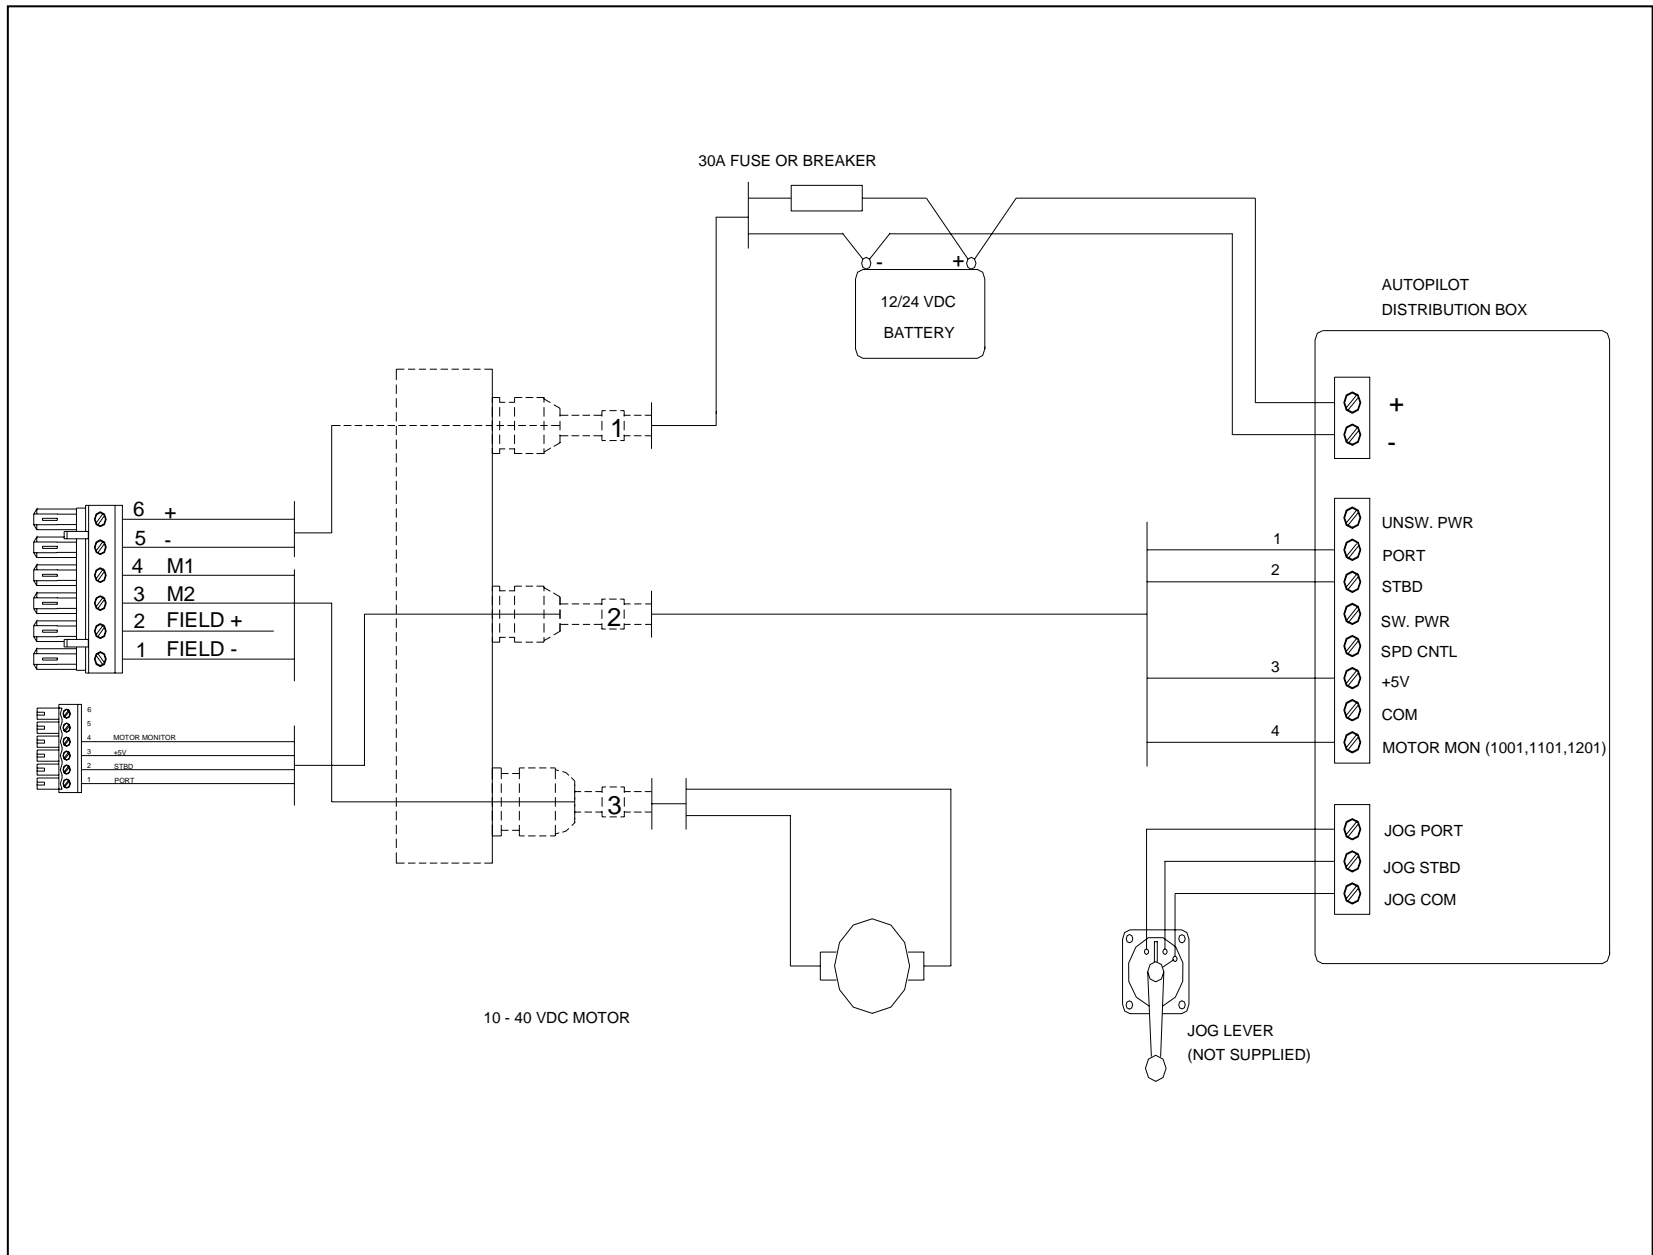

Figure 2 Connection to Permanent Magnet Motor
**For the correct interconnection of the CT2 Motor Controller and the Autopilot** refer to Figures 2 through 4. A four-conductor, #24 AWG cable with shield will be satisfactory. The shield of the cable should be terminated to the **JOG COMMON** terminal (or **V-**) in the Autopilot distribution box and unterminated at the other end.